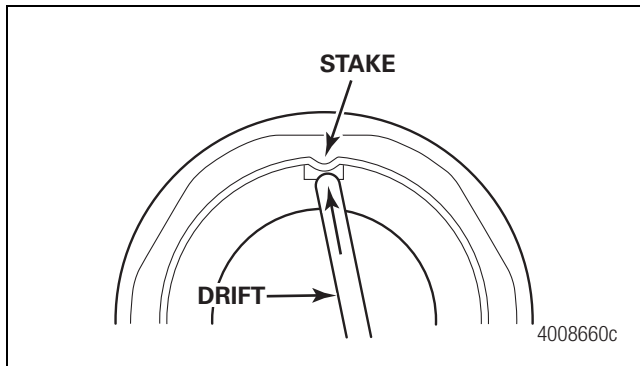

Figure 4.15
1. Use a blunt drift to remove the two stake points on the wheel bearing nut. Remove the wheel bearing nut. Figure 4.15.